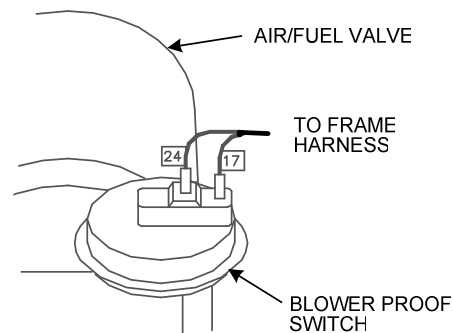

Figure 7.5
17. Disconnect wires #24 and #17 from the blower proof switch (Figure 7.5).